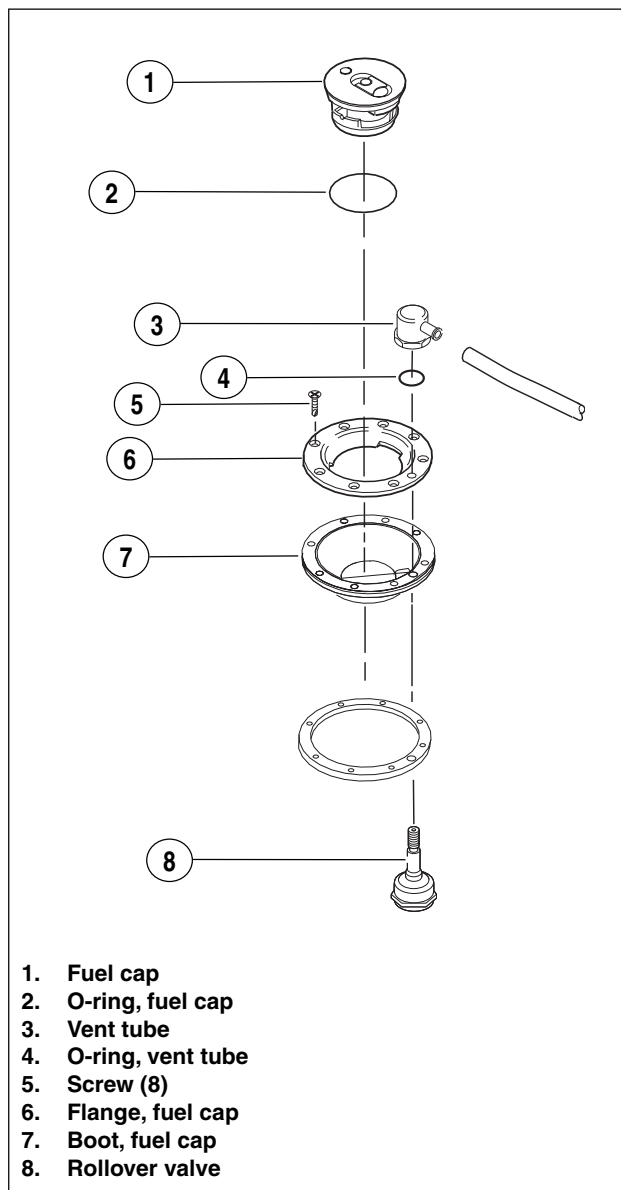

Figure 4-7. Rollover Valve And Fuel Cap Assembly
5. See Figure 4-7. Carefully cut small cable strap and pull vent tube from fitting at front of fuel cap flange.
10. See Figure 4-7. Remove o-ring from groove in vent tube fitting. Discard o-ring.